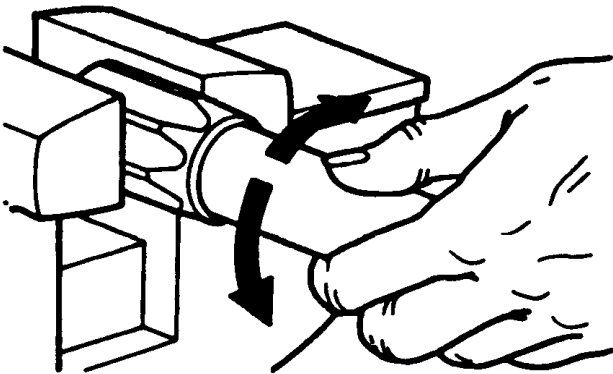

Figure 95 Hose Bottoms in Fitting
6. Lightly clamp the hose socket in a vise with the hose end facing out (Figure 95).
7. Screw end of new hose into socket (turn counterclockwise) until hose bottoms in fitting, then back off 1/4 turn (Figure 95) .